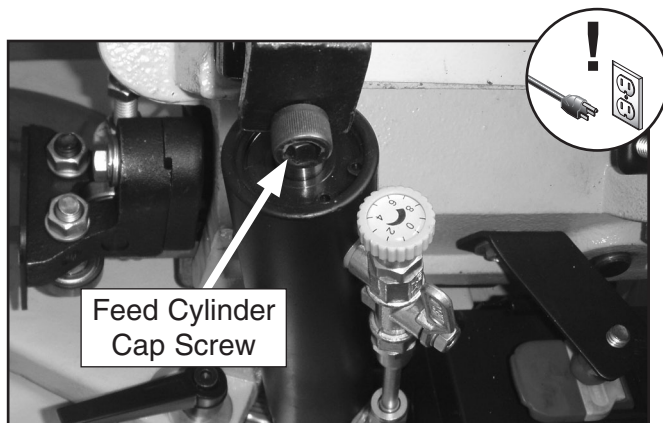

Figure 37. Disengaging the feed cylinder.
2. Hold the headstock, unattach the feed cylinder by removing the cap screw, then raise the headstock to the full vertical position (see **Figure 37**).